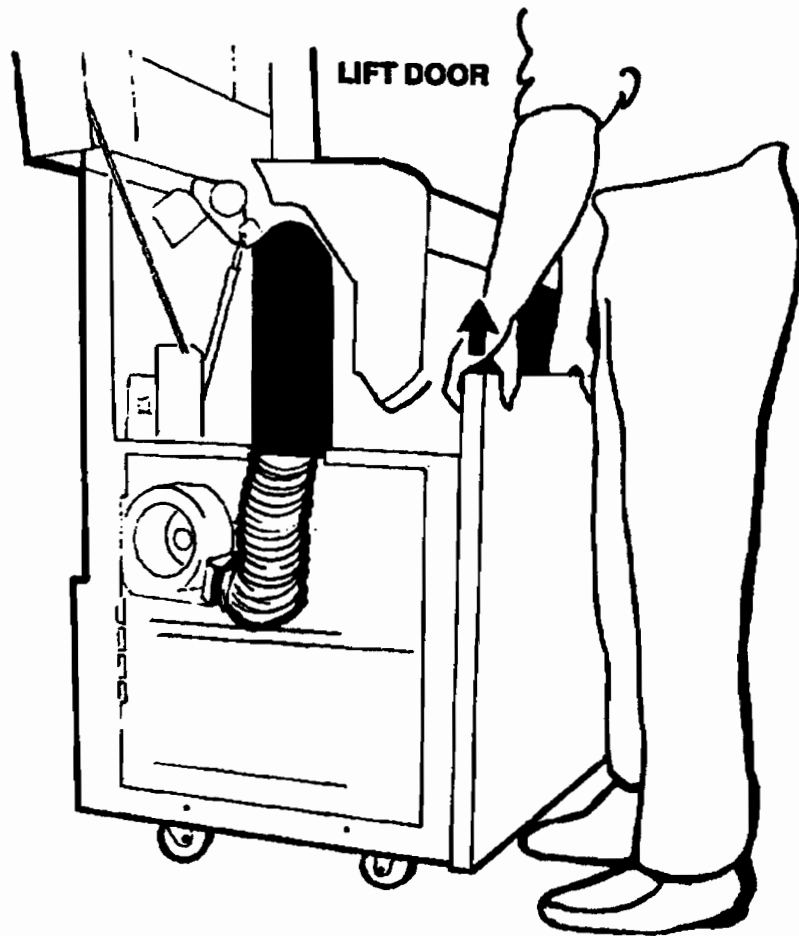

Figure 4. Removing Front Door
6. Remove the front door by opening it part way, grasping it near the hinge side, and pulling it straight up (the door is mounted on pins and not fastened - Figure 4).